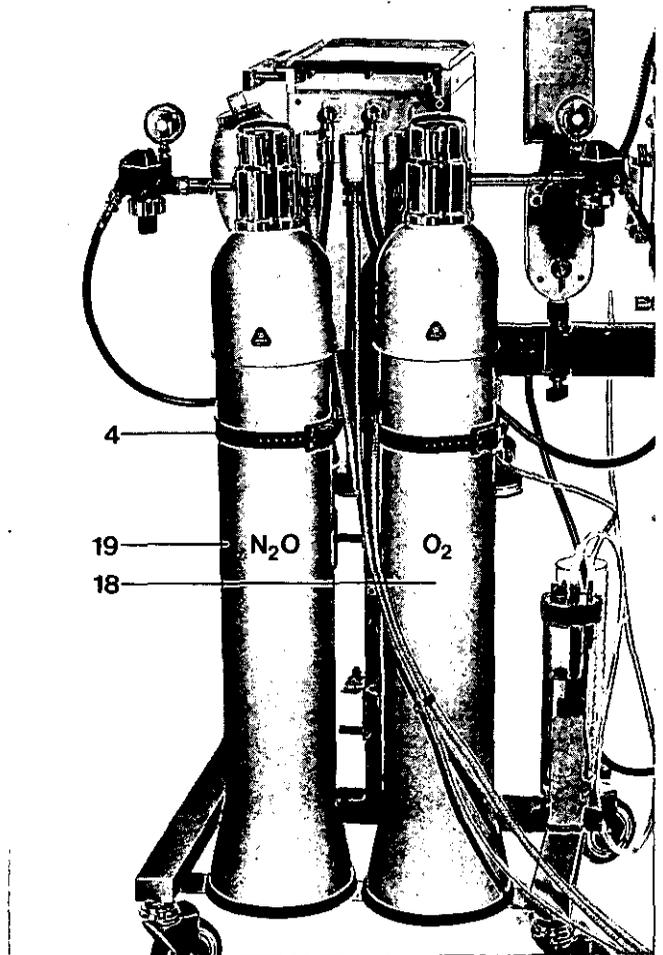
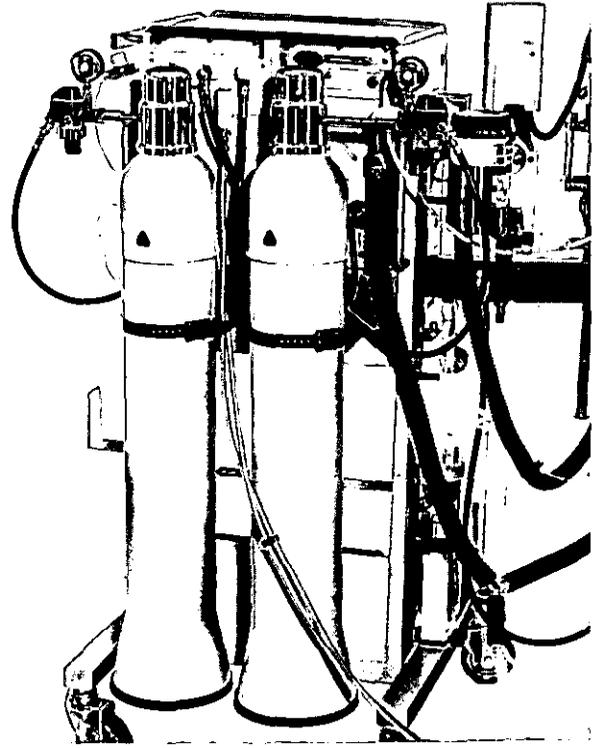

Fig. 5 Sulla 808: Back view, with large cylinders
Fig. 7 Sulla 808 V: Back view, with large cylinders
- Connection of 11 L cylinders (for Sulla 808, see Fig. 5; for Sulla 808 V, see Fig. 7).